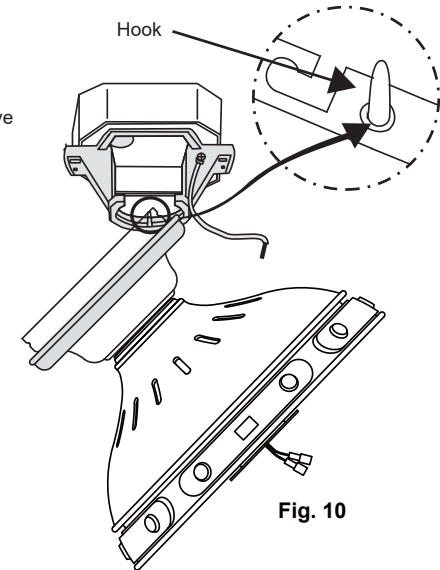

Fig. 10
Step 2. Push the decorative mounting screw cover down and off the canopy letting it rest on top of the motor housing (**Fig. 10**) and hang the fan on the ceiling mounting bracket by inserting the hook on the inside edge of the ceiling mounting bracket through one of the screw holes in the ceiling canopy (**Fig. 10**). This will allow you to have both hands free to make the wiring connections.